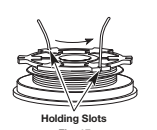

Fig. 17
4. Insert the two 6-inch sections into the two .095 holding slots (Fig. 17).